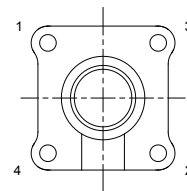

Fig. 8
- 9.2 The body bolts should be tightened until finger tight and then gradually fully tightened per the bolting sequence shown in figs. 8 & 9 to the torque shown in table 2. It is important that tightening be done gradually so as not to trap or pinch any part of the seats or seals and to maintain concentricity.